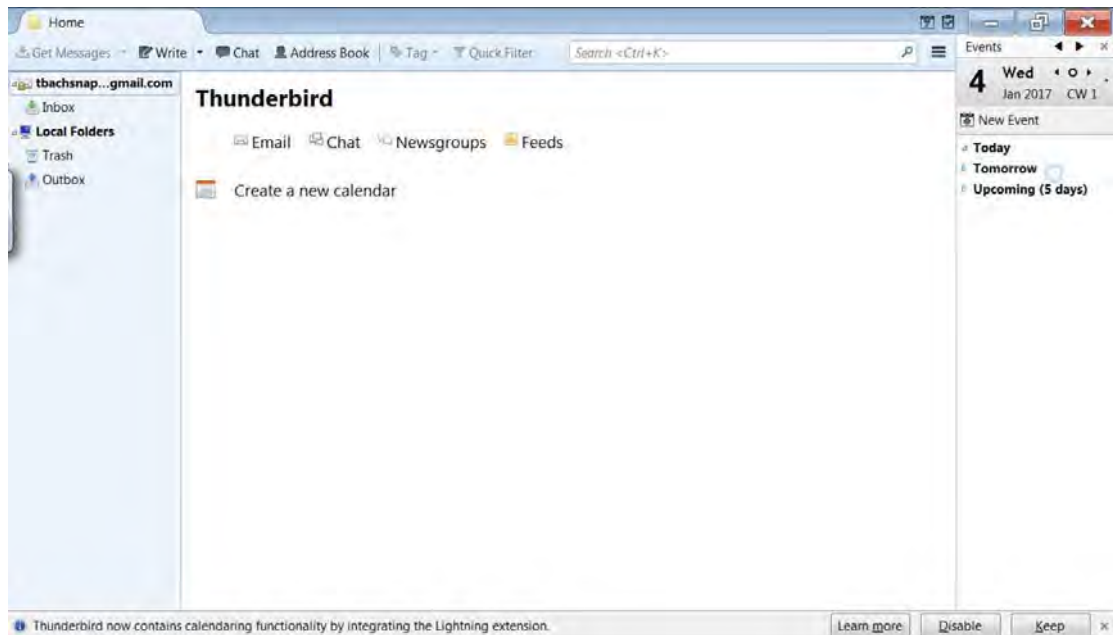

Figure 10-15
8. Once the client has successfully linked to your address, you can begin using the new e-mail client software on the diagnostic tool (Figure 10-15).